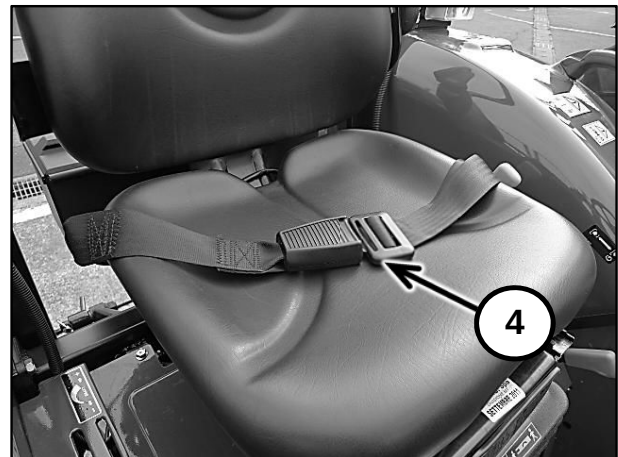

Figure 2-2
To lengthen the seat belt (4) in Figure 2-2, tip the buckle end down and pull on the buckle until the ends can be joined. To shorten the belt, buckle it, and then pull on the loose end until the belt is snug.